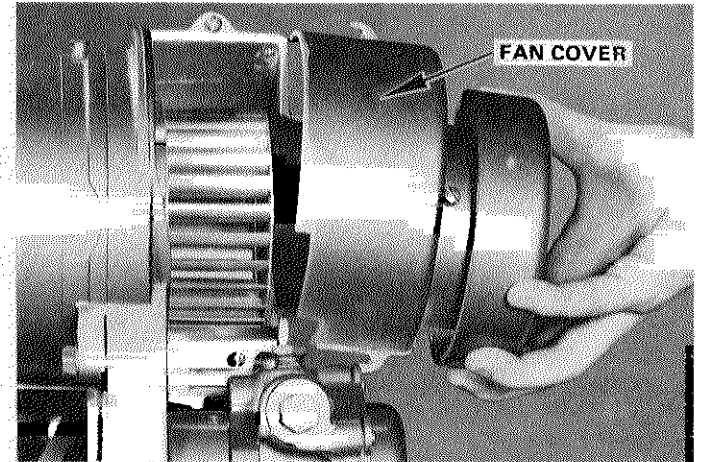

FIGURE 9
- 4 - Loosen the two screws securing the fan cover (3 turns) and slide fan cover off to the right exposing the blower wheel. See Figure 9.